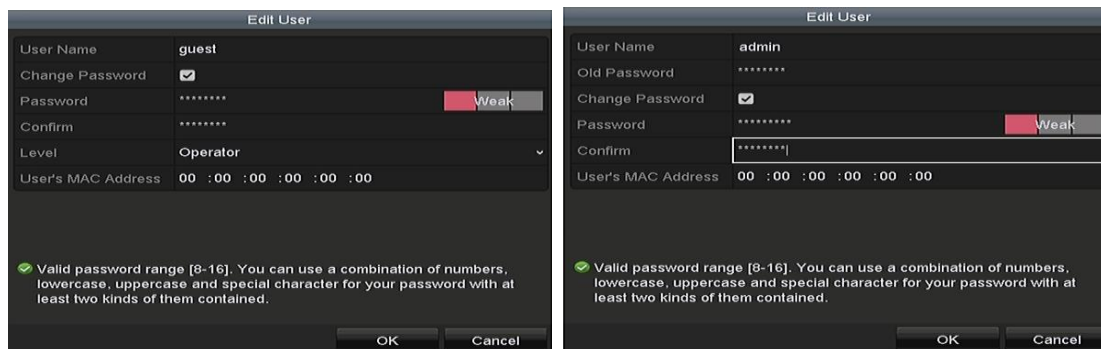

Figure 15. 9 Edit User Interface
3. Click the  icon to enter the Edit User interface, as shown in Figure 15. 9.